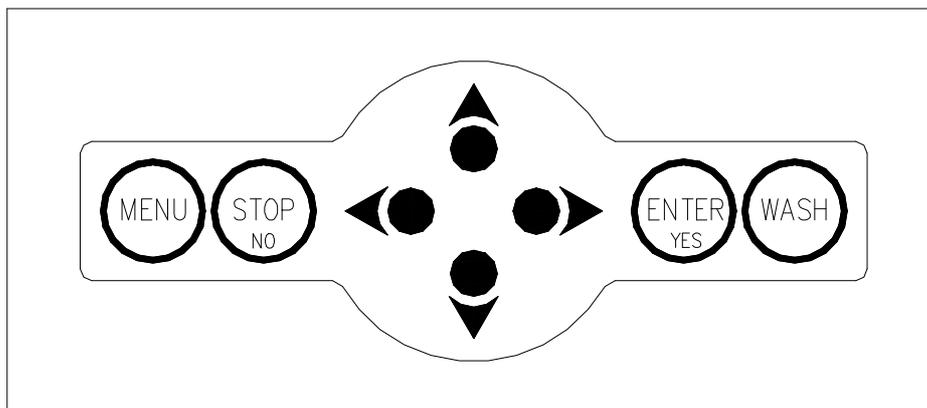

Figure 3: Close view of the keyboard
**Keyboard** The keyboard (Figure 3) is used in a functional way, for moving inside the Menu. Data entering is guided by the emission of a beep when a key is pressed. The keyboard consists of 8 keys, 4 of which are arrows for moving inside of the Menu and 4 are functional. It is also possible to connect a keyboard PS2 of computer to interact on the software.